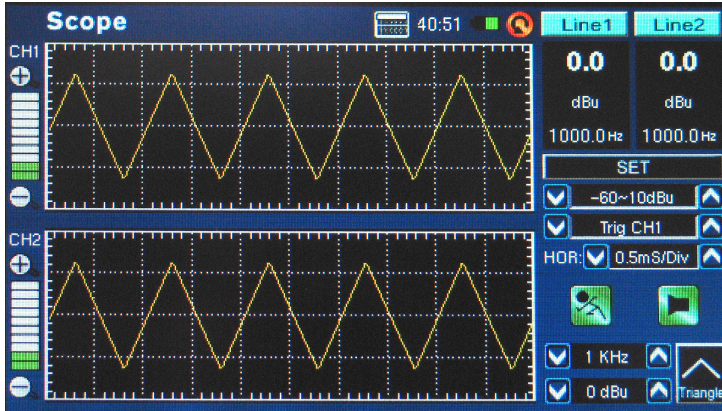

figure 54
4. Signals such as sine waves, triangle waves, square waves, etcetera, will appear as you would expect. If the appearance of these waves seems cluttered or out of focus, you may need to adjust the HOR (horizontal time) option, found on the right-hand side of the display window (figure 54).